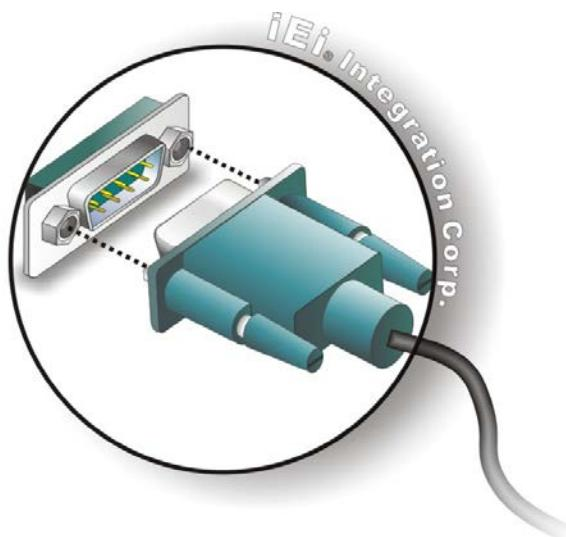

Figure 3-20: Serial Device Connector
Step 2: **Insert the serial connector.** Insert the DB-9 connector of a serial device into the DB-9 connector on the external peripheral interface. See **Figure 3-20.**